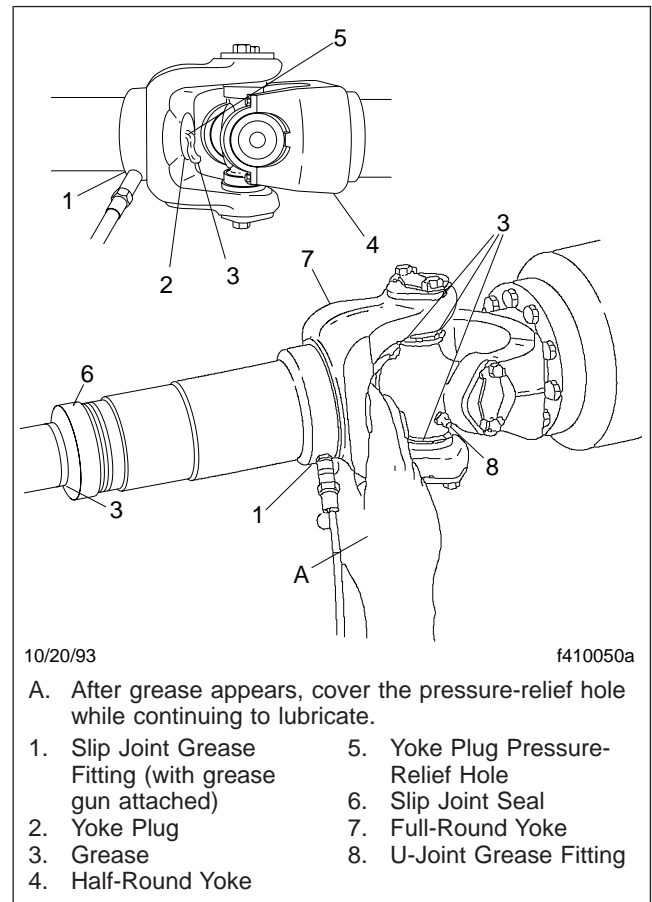

Fig. 5, Slip Joint and U-Joint Lubricating
- For driveshafts with slip joints, check to be sure the yoke plug is not loose or missing. See Fig. 5, Ref. 2. Repair or replace the yoke plug as needed. If the yoke plug is missing, the splined shaft may be hitting the plug and knocking it out; contact your Regional Service Office for assistance in determining the correct driveshaft length.
- Wipe all old grease and dirt from each U-joint grease fitting. See Fig. 5, Ref. 8.
1. Wipe all old grease and dirt from the slip joint grease fitting. See **Fig. 5**, Ref. 1.
2. Use a hand-type grease gun or a high-pressure gun with a low-pressure adapter, to lubricate the slip joint. Add multipurpose chassis grease (lithium 12-hydroxy stearate, NLGI grade 1 or grade 2, with EP additives) until it appears at the pressure-relief hole in the yoke plug. Then cover the relief hole with your finger, while continuing to apply gun pressure until new grease appears at the slip joint seal. See **Fig. 5**. This ensures complete lubrication of the splines.